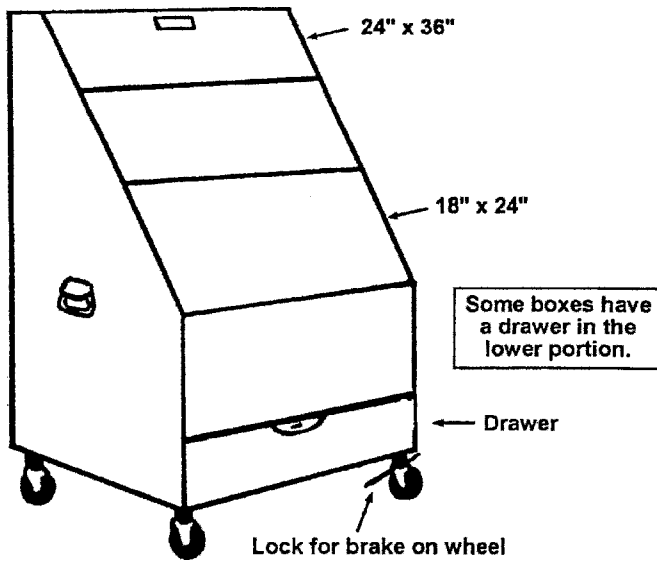

Figure 2.25 Flag/scrim box.
1. The scrim box is a box with dividers in it (Figure 2.25).